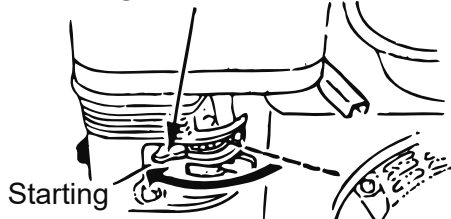

Fig. 16
4. When it is cold or the engine does not start easily, close the choke lever. (Figs. 16)